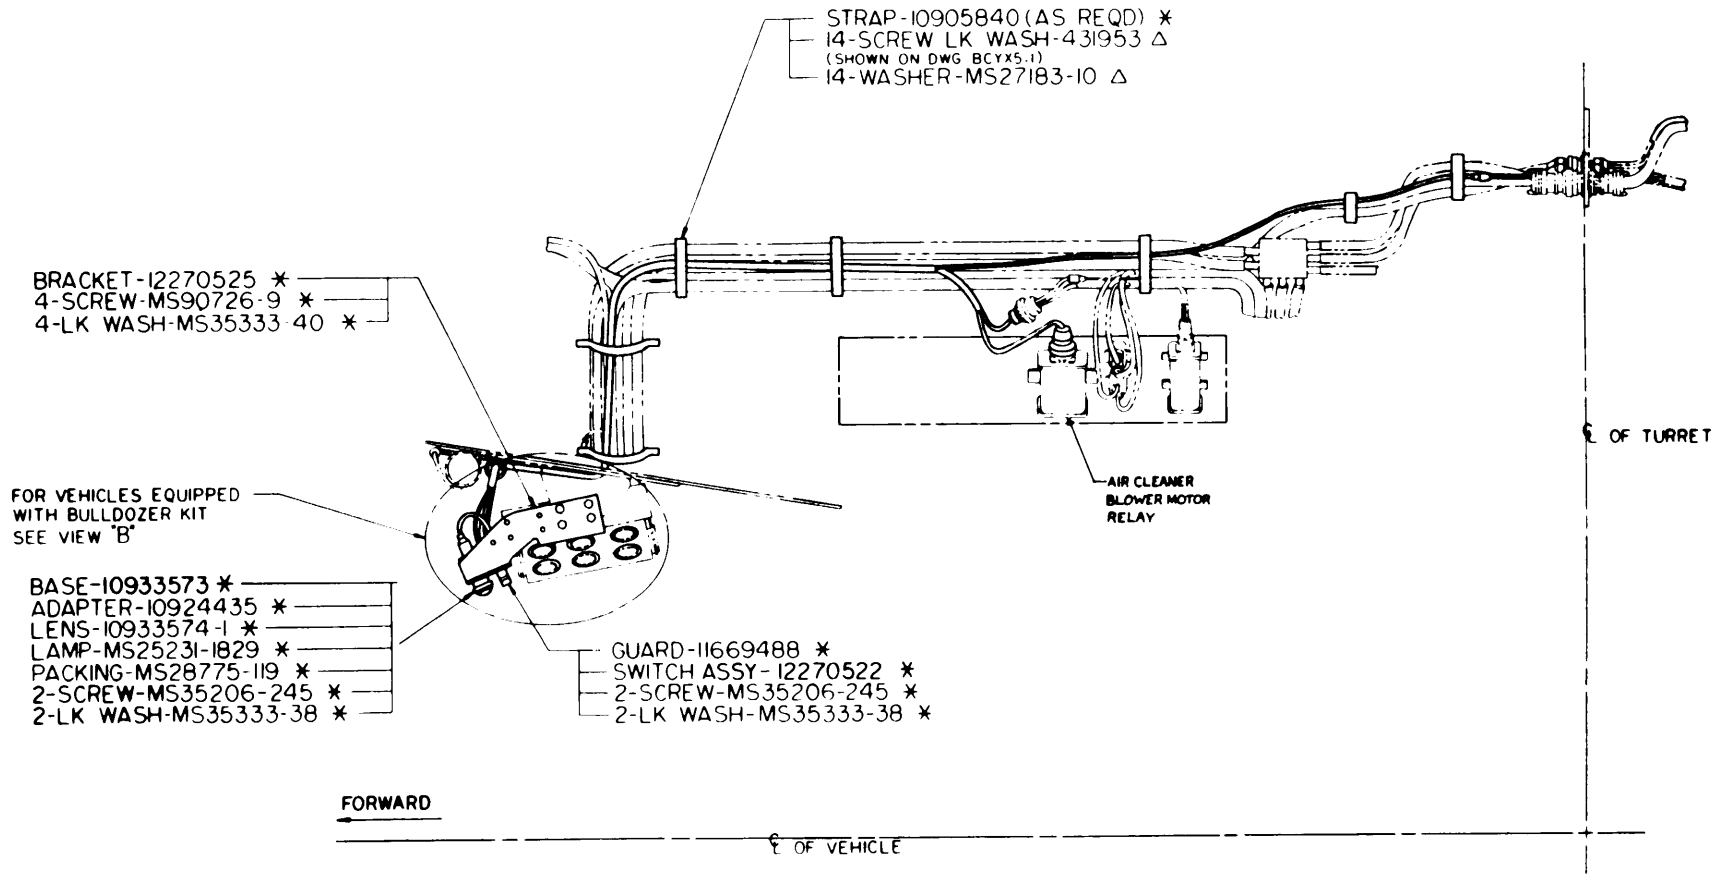

Figure 38. Top View of Harness Kit Installation for M60A1
- (11) Install previously assembled switch bracket assembly to the gage indicator panel in position shown with four screws MS90726-9 and four lockwashers MS35333-40 (refer to figures 38, 39, 40 and 41).
(12) Remove and retain one screw, lockwasher, and flat washer from each of the wiring harness securing straps 10905840 as shown (refer to figures 38 and 39).
(13) Connect the kit wiring harness switch receptacle to the switch connector and secure the wiring harness with clamp MS21333-100, screw MS90725-7, lockwasher MS35337-25, flat washer MS27183-11, and nut MS35690-402 to personnel heater fuel pump as shown. Discard existing screw MS90725-6 (refer to figures 38, 39, 40 and 41).
(14) Route the kit harness 12270526 along the existing harness to the air cleaner blower motor relay. Disconnect the relay receptacle and connect the kit harness spliced jumper into the relay circuit (refer to figures 38, 39, 40, 41, 42 and 43).